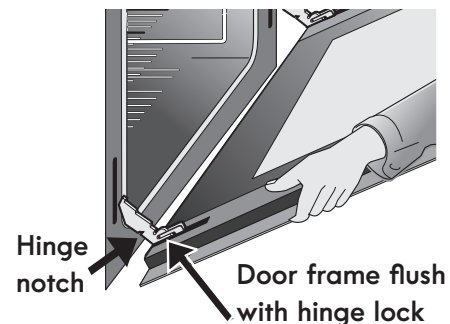

Figure 31: Remove door position
4. Pull the bottom of the door toward you while rotating the top of the door toward the appliance to completely disengage the hinge levers (Figure 31).
1. Firmly grasp both sides of oven door along the door sides. Do not use the oven door handle (Figure 31).
2. Hold the oven door at the same angle as the removal position. Carefully insert the hinge levers into the oven frame until you feel the hinge levers are seated into the hinge notches. The hinge arms must be fully seated into the hinge notches before the oven door can be fully opened. (Figure 31).